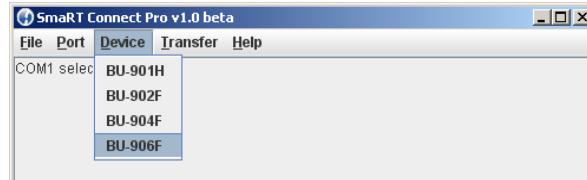
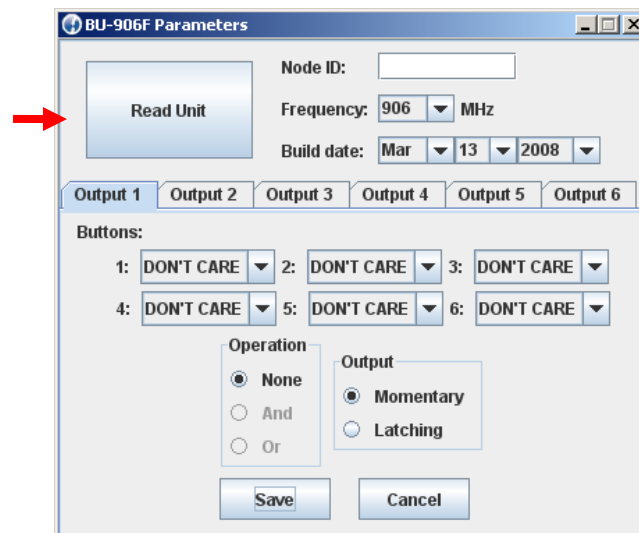

Figure 12
Figure 13
1. Click the **Device Menu** and select the base unit type from the drop-down menu as shown in Figure 12. BU-906F is chosen for this example. The Parameters dialog box opens (Figure 13).
2. Click the **Read Unit** button (Figure 13). This populates the **Node ID**, **Frequency**, and **Build date** fields. Changes to the Frequency and Build date fields can be made using the drop-down menus. The initial values pulled from the base unit are the default values for a new unit, or the stored values for a previously configured unit.